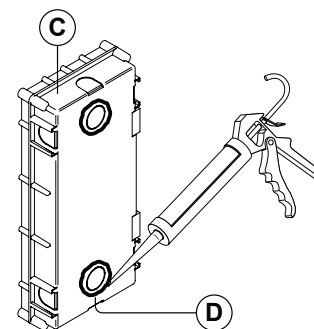

Fig. 65
⚠ Before fitting the flush box (C) into the wall it is recommended that in order to prevent water ingress a silicon sealant is used between the wall and the flush box and around the flush box holes (D) (Fig.65);